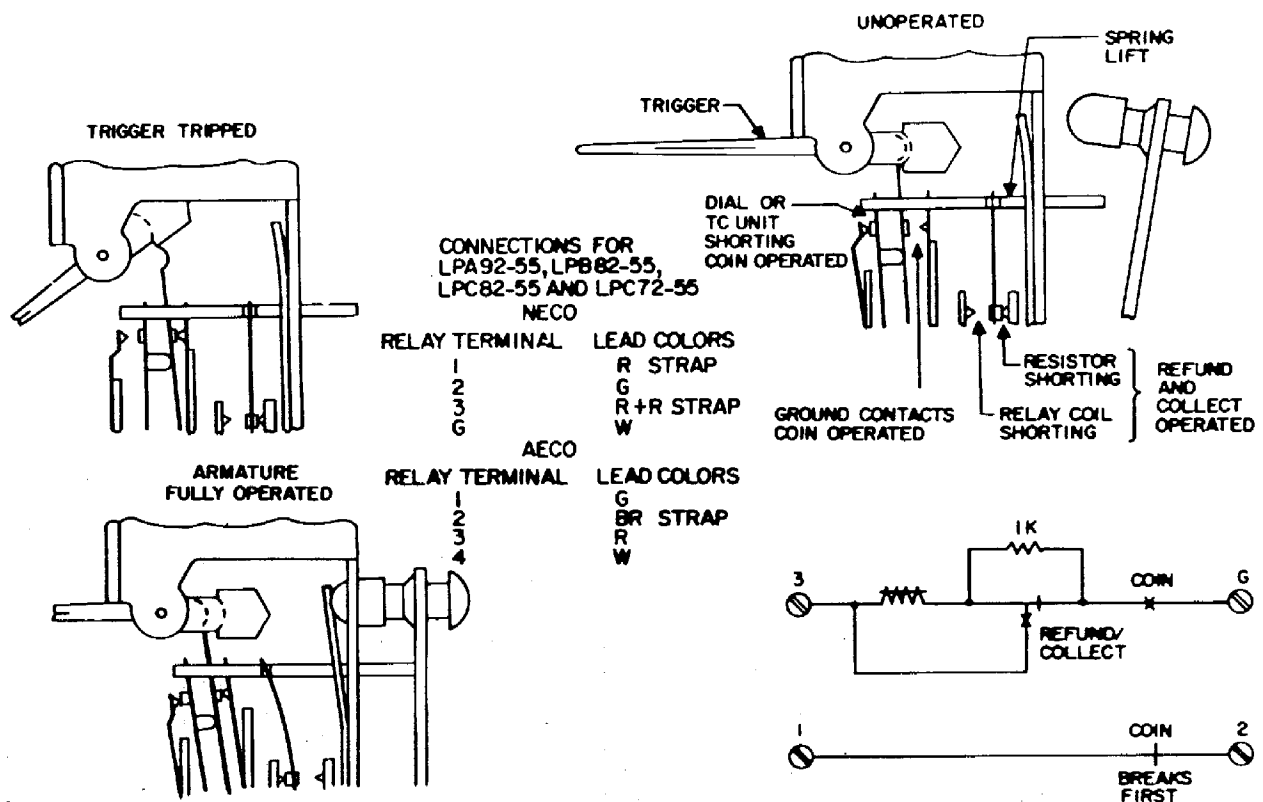

Figure 3. Coin Relay Contact Spring Assembly and Schematic.
- (1) Trip the coin trigger and make visual inspection of the contact springs. The ground contacts (see Figure 3) should make firmly. Verify by feel, using an orange stick.
- (2) Lift the handset and check for presence of dial tone. Dial a local selection digit and check for absence of dial tone.
- (3) If dial tone is not heard in coin-first office, tilt the relay selector card by pressing down on one ear, and then operate the relay armature. If dial tone is then heard, the relay has an open coil and should be replaced.
- (4) If dial tone is not heard in a tone-first office, check at the line terminals of the set for central office battery feed. If battery is not detected there, check the station and drop wiring for defects.
- (5) If dial tone is heard in tone-first office, but cannot be broken by dial-
- (1) Make a visual check of the dial shorting contacts. With the coin trigger unoperated, the contacts should be held closed, and the rear spring should exhibit perceptible follow beyond its stop spring, as shown in Figure 3. With the trigger tripped, the buffer on